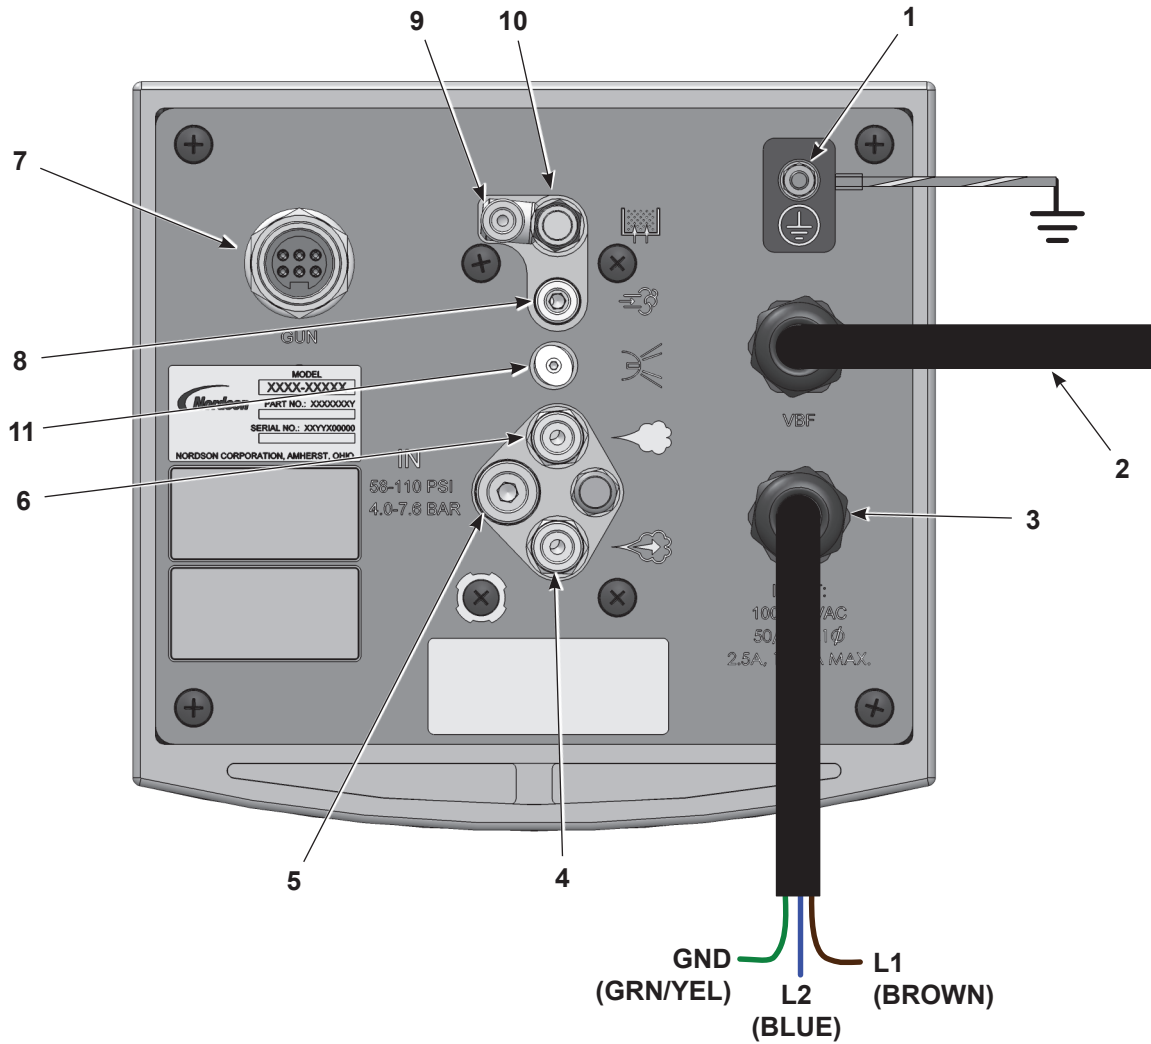
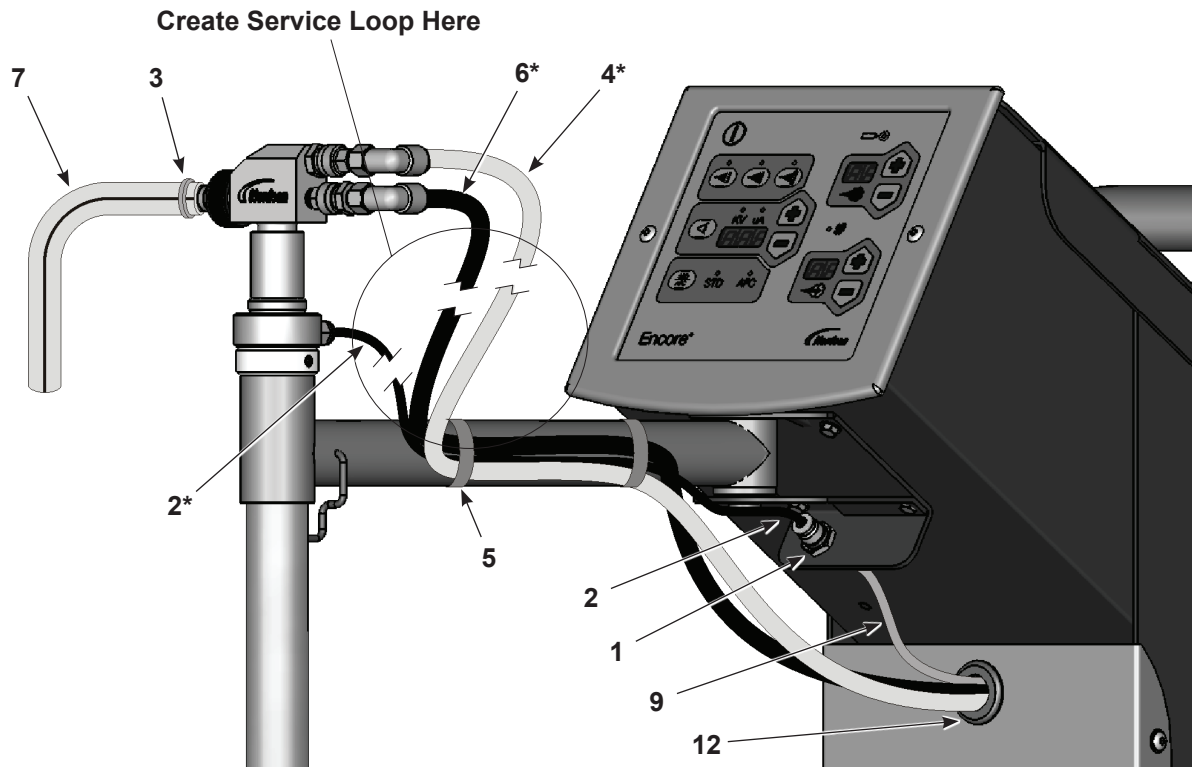

Figure 3-4 Encore LTGun Controller Connections
Figure 3-8 Encore LT Gun Pickup Tube and Pump Installation
7. See Figure 3-4. Plug the shorter lengths of the tubing into the controller:
- 8-mm blue atomizing air tubing (4)
- 8-mm black flow-rate air tubing (6)
- 6-mm blue fluidizing air tubing (9)
8. See Figure 3-8. Route the tubing (4, 6, 9) through the grommet in the front panel of the cart tower as shown.
- 8-mm blue atomizing air tubing (4) to the pump top fitting
- 8-mm black flow-rate air tubing (6) to the pump bottom fitting
- 6-mm blue fluidizing air tubing (9) to the bulkhead union (1)
- 6-mm black fluidizing air tubing (2) to the union and pick-up tube
- powder hose (7) to the pump—secure with hose clamp (3)
3. See Figure 3-4. Plug the following into the controller: